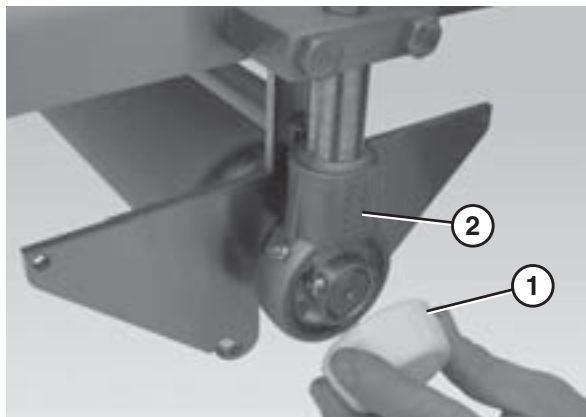

Figure 66
12. Remove the bearing cover (Figure 66, item 1) on the center drive shaft assembly (Figure 66, item 2).